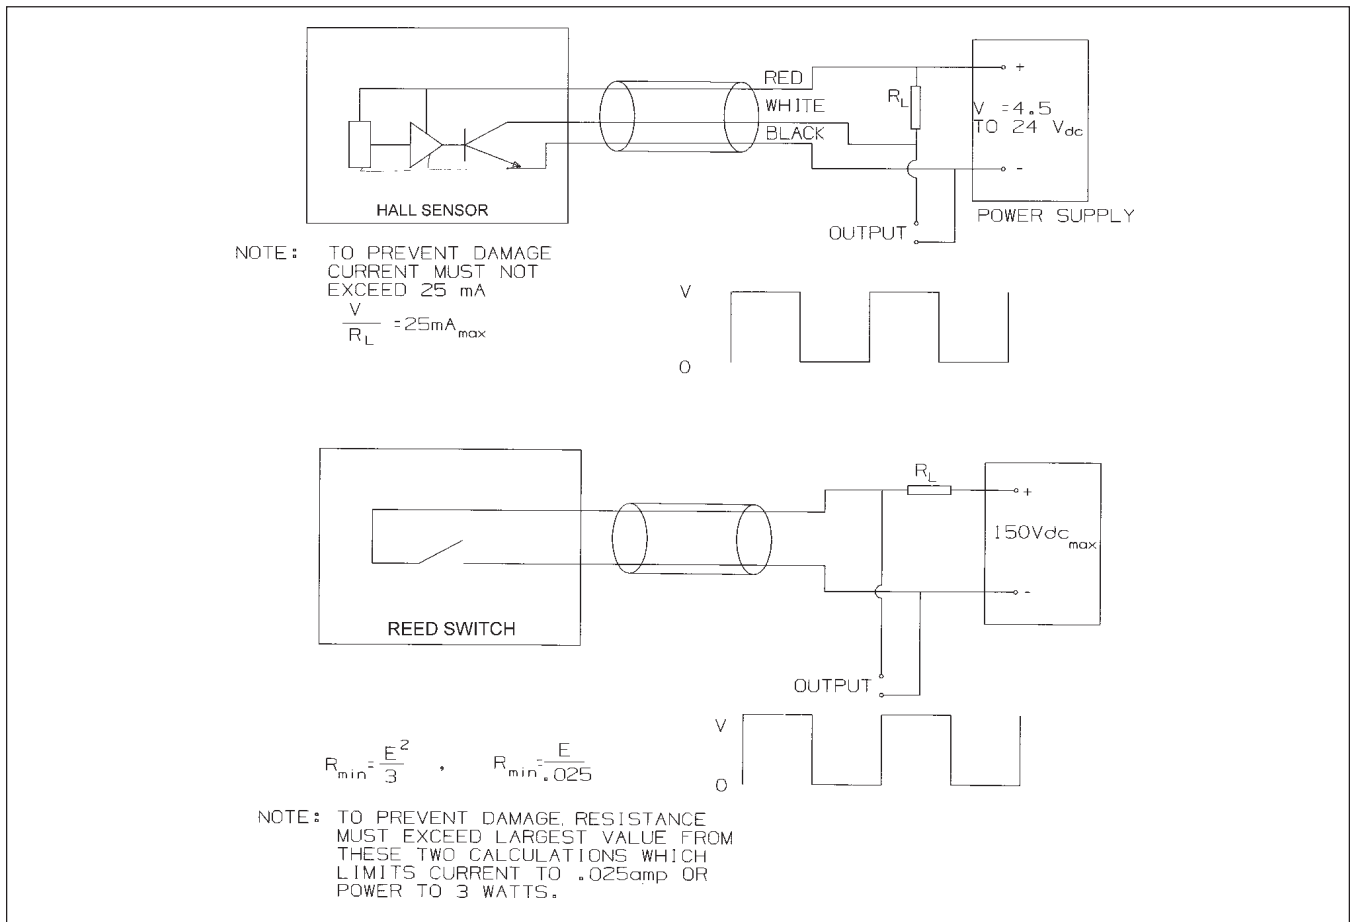

Figure 2-5 Electrical Connections
10. Refer to Figure 2-5 for electrical connections.